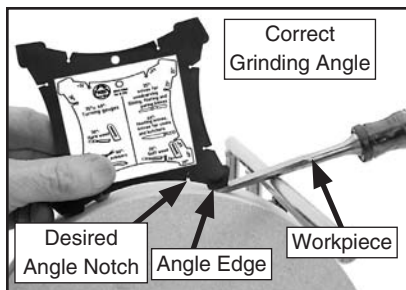

Figure 11. Angle guide usage.
3. Place the angle guide on the wheel with the desired angle notch (found in **Step 2**) against the wheel and adjacent to the universal support (**Figure 11**).
4. Adjust the positioning of the workpiece and the universal support height as necessary so that the sharpened edge of the workpiece is flat against both the grinding wheel and the angle edge on the angle guide as shown in **Figure 11**. For precision grinding attachments, see **Accessories** on **Page 18**.